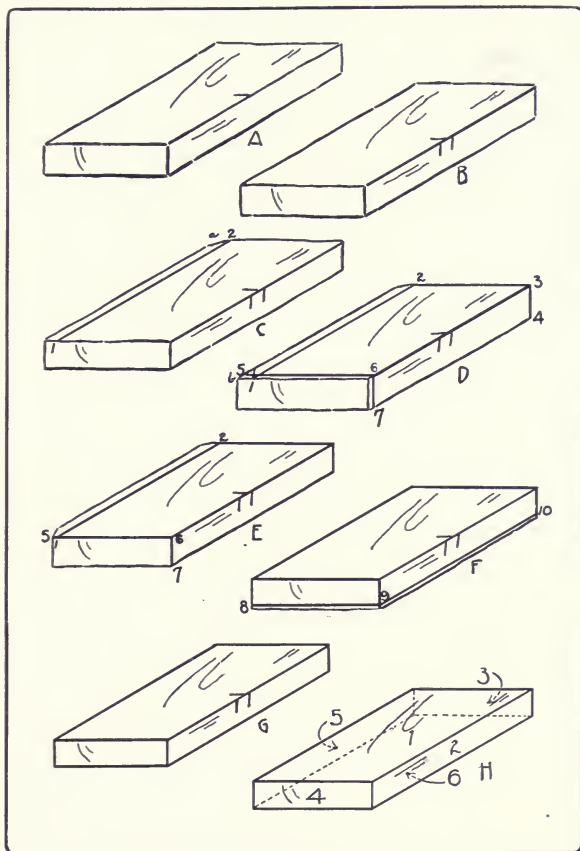

Fig. 103. The Order of Planing a Board.
1. Working face. Plane one broad side flat and smooth. Finish with the plane set to cut fine shavings. Test with try-square. Mark this face with a distinct pencil mark, A, Fig. 103.
2. Working edge. Plane one narrow side straight and square with the working face. Test with try-square, pressing the block of the try-square against the working face. Mark the working edge with two distinct pencil marks, B, Fig. 103.
3. End. First mark the width on the working face with the marking-gage, C, 1-2, Fig. 103. Chisel off the corner, *a*, of the piece outside this gaged line. True and smooth this end with the plane, making it square with both working face and working edge, D, 2, 3, 4, Fig. 103.
using a sharp knife point and the try-square. Saw just outside this line, D, 5-6-7, with the back-saw, cut off the narrow corner, D, *b*, beyond the gaged line and plane true, E, Fig. 103.
5. Width. Plane to the center of the gaged line, E, 1-2. Test this edge from the working face, F, Fig. 103.
6. Thickness. Mark the thickness with the marking-gage all around the piece, F, 8-9-10. Plane to the center of the gaged line, G, Fig. 103. Test this face for flatness.
In a word, the order to be followed is graphically represented in H, Fig. 103. The surfaces are numbered consecutively in the order in which they are to be planed.
The advantages of this order are these: by planing the working face first, a broad surface is secured to which the others may be made true. By planing the ends before the width is planed, the danger of splitting off fragments can be avoided by chiseling the corner of the unfinished edges, C, *a*, and D, *b*, Fig. 103, into a buttress. By planing the ends and the width before the thickness is planed, a dressed face is secured all around for gaging the thickness. In following this order all measurements and markings are made on a dressed face.